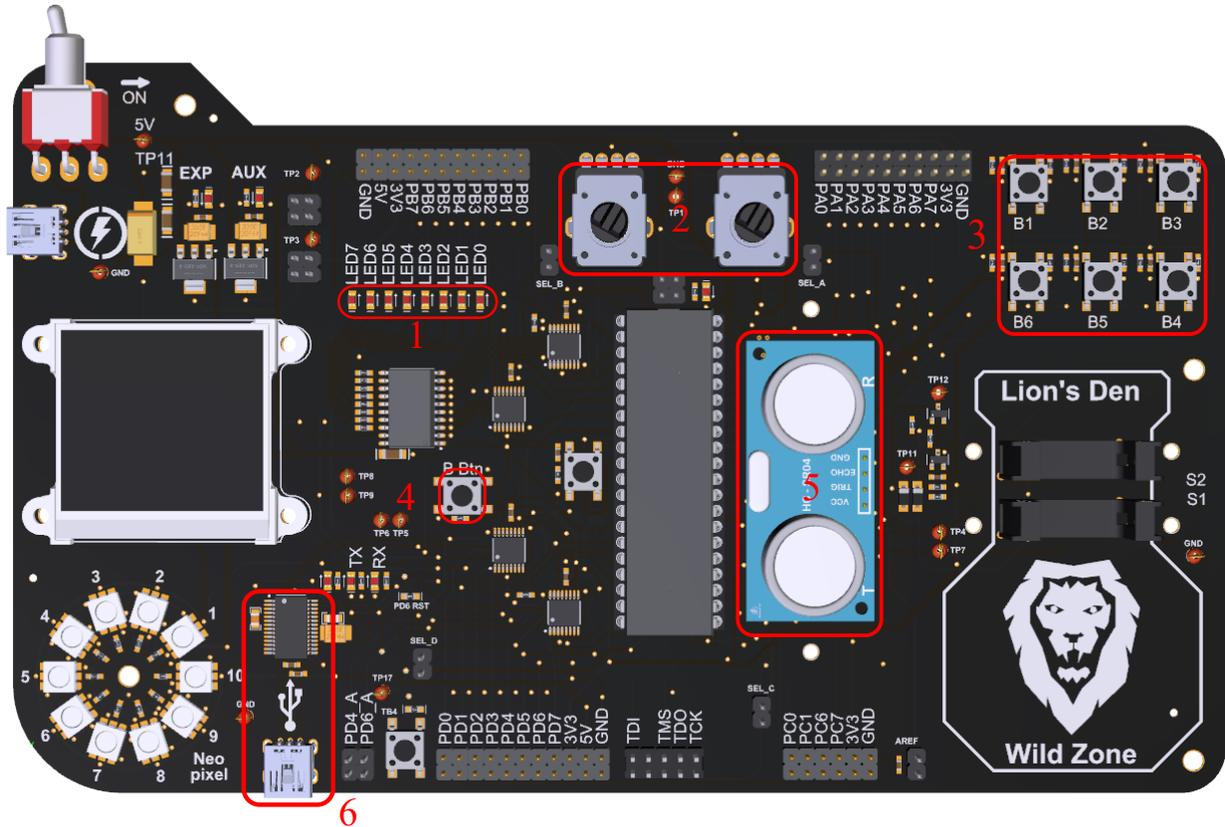
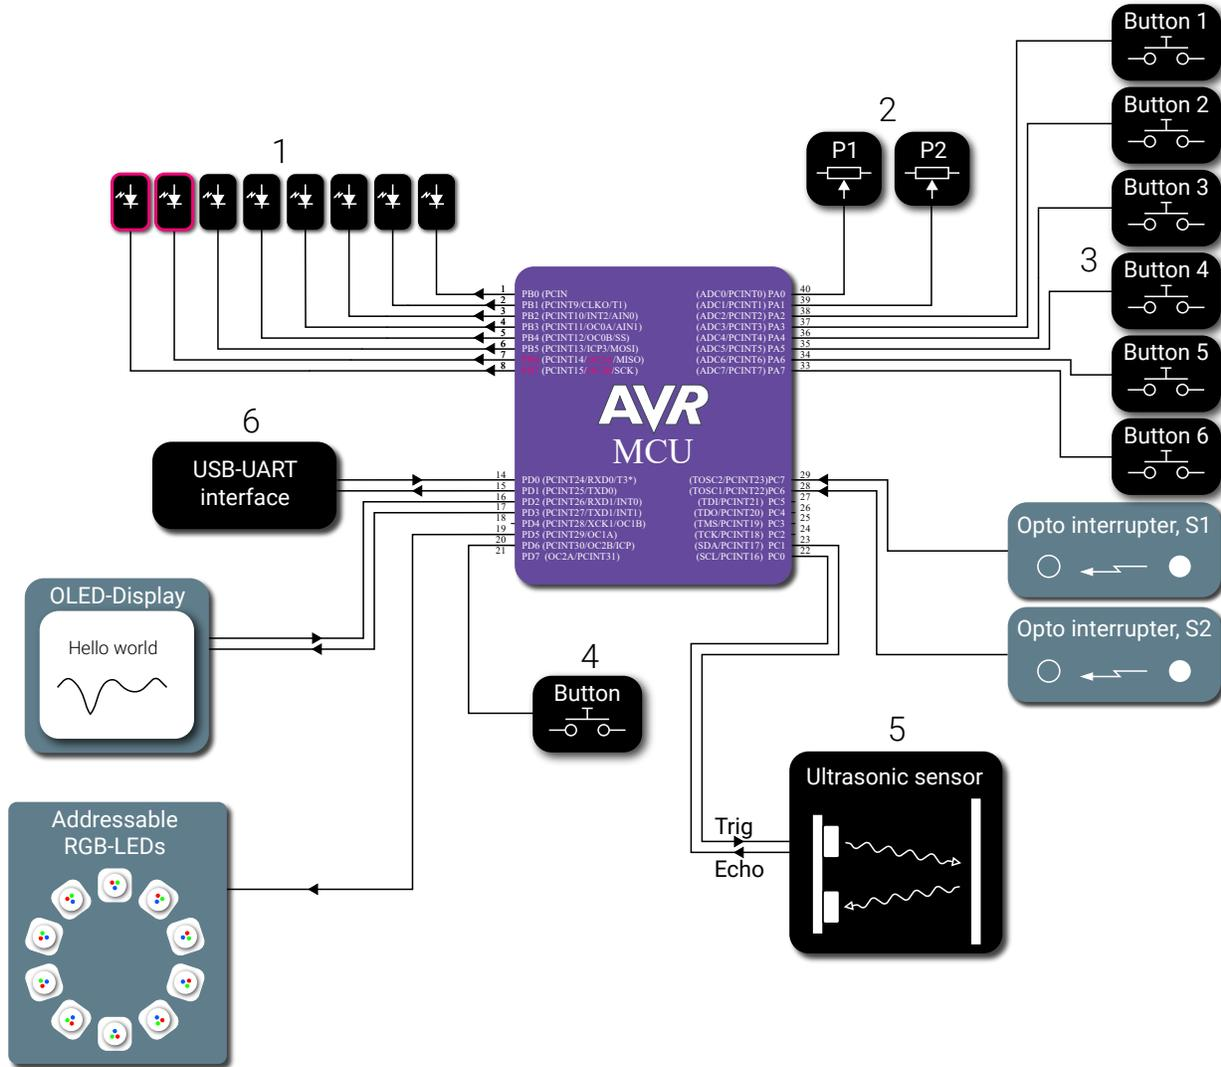

Figure 1: A picture of the circuit board with the used I/O devices marked.
Figure 2: Block schematic of the circuit board with the used I/O blocks coloured black.
During this laboratory exercise, several I/O devices will be used. The external device that will be interfaced is shown in Figure 1 and 2. In Figure 1, the I/O devices used are encapsulated in a red rectangle and labeled with a number In Figure 2, the corresponding blocks are colored black.
Some of the I/O units need to be interfaced in a way that requires more finesse than what a simple, general-purpose I/O pin can achieve. For instance, the outputs of the potentiometers are analog signals. An I/O pin, when configured as an input, can only tell if a signal is above or below a certain threshold. For this reason, it lacks the ability to measure the actual amplitude of an analog signal. In case of the AVR microcontroller (and microcontrollers in general), each I/O pin can be connected (inside the microcontroller) to a couple of different sources. The name of the alternative sources can be seen in Figure 2. It is the text between the parentheses. When it comes to Port A, all of the I/O pins can be connected to the built-in analog-to-digital converter. See the name of the alternative source in Figure 2, ADC0, ADC1 and ADC2 and so on.
Use the schematic in Figure 2 to see where the the button is connected.
- Now we will spice things up a bit. Change the currently used button to the spare button connected to PD7 (Port D). It is labeled with `B_Btn` and can be found on the left hand side of the MCU, see Figure 1. This button is of the same kind as button B1-B6. And remember to configure PD7 as an input only. There are other components connected to port D.